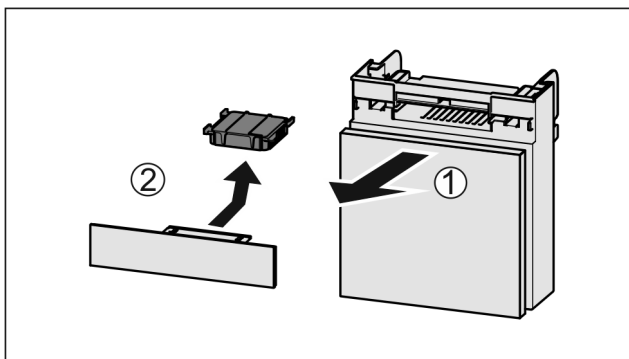

Fig. 116
- ▶ Pull out the compartment Fig. 116 (1).
- ▶ Remove the carbon filter Fig. 116 (2).